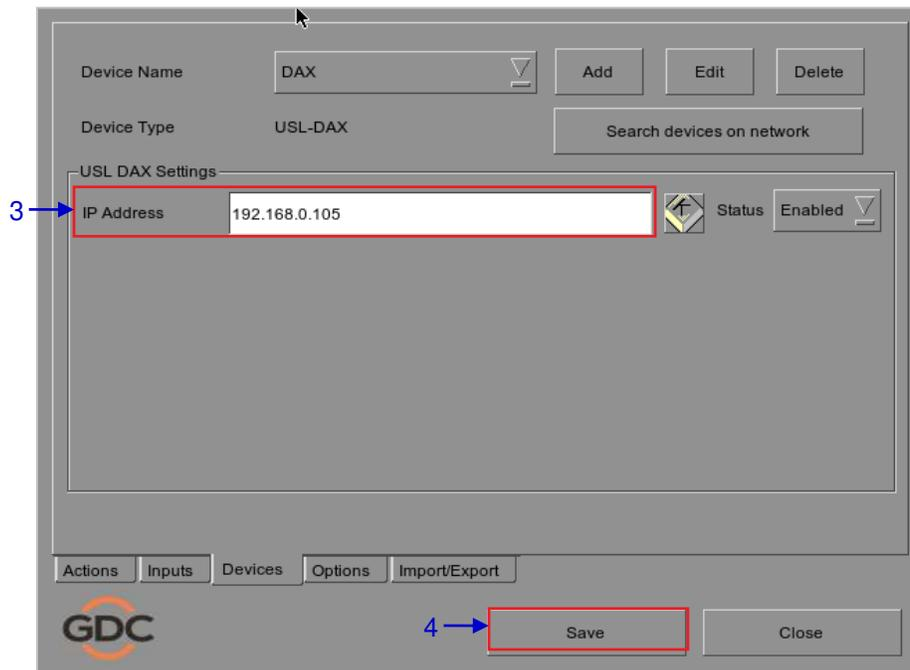

Figure 54 Automation settings for USL DAX device.
3. Enter the IP address of the USL DAX device (see Figure 54).